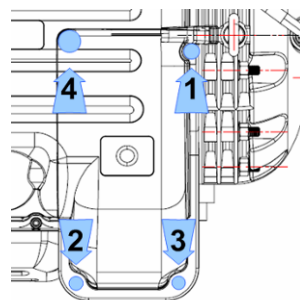

Figure 33 – Mains Input Cover Torque Sequence
2. Place the Top Cover and secure it with the M5x15 fasteners according to the following sequence. Follow the sequence twice. The first time, only tighten the fasteners half way down to allow for adjustments. Torque to 13 in.lb. on the second pass. Refer to Figure 33 (Top Cover Torque Sequence).